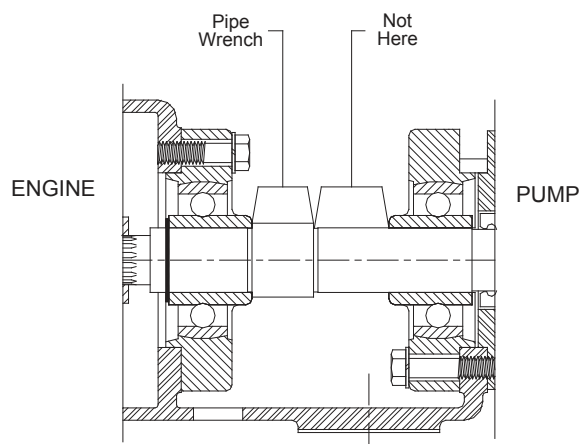

FIGURE 5
1. To clean pump impeller (3), loosen two victaulic pipe clamps and remove suction pipe assembly. Impeller eye can then be seen through suction cover plate (1) and is readily accessible for cleaning.
2. For further access to impeller, remove the eight bolts (5B) holding cover plate (1) in place. Remove suction cover plate, being careful not to damage the O-Ring gasket (2).
3. To remove impeller take impeller wrench, which is stored in tool box, and position it so hole is aligned with any of the eight tapped holes in front of pump casing (5). The 90° leg of the wrench should face in towards the impeller and be positioned between any two of the impeller fins. Bolt wrench securely in place with one of the suction cover plate bolts (5B). Using a pipe wrench on the shaft (9) (See Figure 5 below), unscrew impeller turning shaft in a clockwise direction. Be careful not to unscrew impeller too far before removing puller wrench.